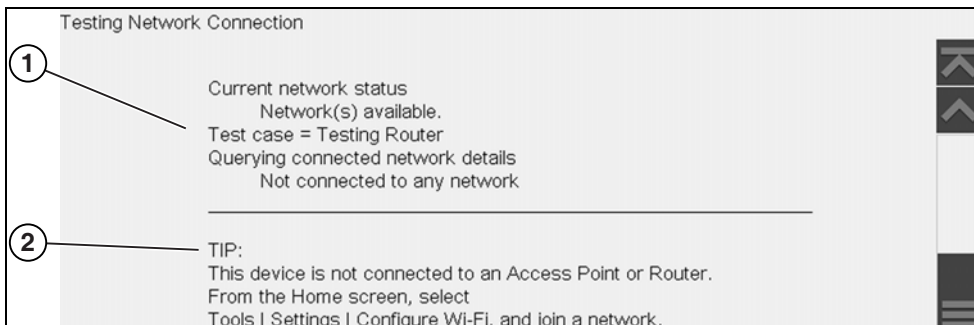

Figure 7-5 View Summary
4. If a connection issue(s) is present, select **View Summary** to review the results. The summary information is helpful if you are experiencing difficulties with your connection (Figure 7-5). Scroll through the summary information to review the test results for each system and Tip messages for the current connection issue. See *Connection Tests - Troubleshooting* chart in “Wi-Fi Troubleshooting and Status Messages” on page 47 for additional information.